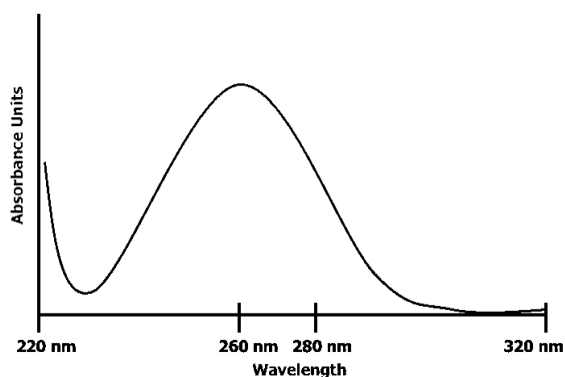

Figure 7.2. Ideal spectrophotometric scan profile for purified DNA. Notice the large peak at 260nm.
One way of studying substances suspended or dissolved in water is to see how strongly they absorb light at various wavelengths, a technique called "spectrophotometry". When you shine a light through a liquid sample, the farther it goes through the sample, the more it interacts with whatever is in the liquid. Every compound has a particular spectrum: in other words each compound absorbs light at different wavelengths with a unique pattern. DNA's spectrum is shown in **Figure 7.2** (below).
16. Your TA will send you the quantification information and 260/280 ratio, as well as the spectrophotometric profile (as in Figure 7.2) from your isolates.